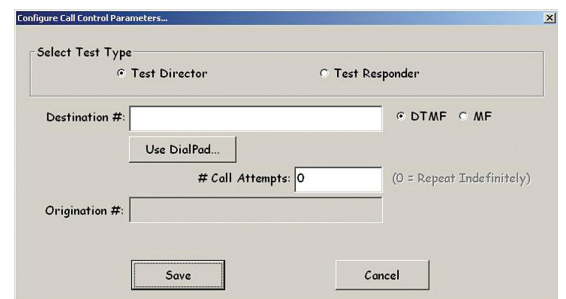

Figure 3.1.7
4. From the main test screen click the configure button next to the call setup field. This action launches the configure call parameters window, choose “Test Director” as the test type and enter the destination number (see figure 3.1.7). Click save to close the window.